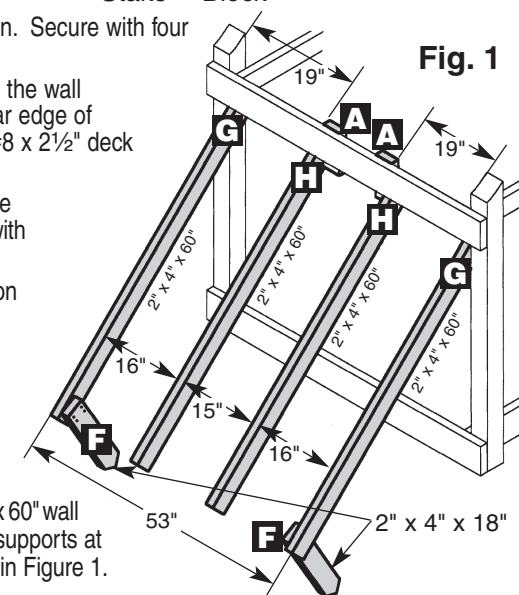

Fig. 1
1. Install two 2" x 4" x 8" blocks 19" from inside of 4" x 4" posts as shown. Secure with four #8 x 2 1/2" deck screws each. (Fig.1)
2. Install two 2" x 4" x 60" wall supports to 4" x 4" tower posts. Position the wall supports under the deck side board so the ends are flush with the rear edge of the 4" x 4"s (opposite ends resting on the ground). Secure with two #8 x 2 1/2" deck screws and one 3/8" x 3" lag screw with washer each side. (Fig.1)
3. Install two 2" x 4" x 18" ground stakes to wall supports as shown (outside dimension must be 53"). Drive them into the ground as shown. Secure with four #8 x 2 1/2" deck screws each. (Fig.1)
4. Install two 2" x 4" x 60" wall supports to the 2" x 4" x 8" blocks. Position the wall supports under the deck side board so the end is in line with the two outer wall supports. Secure with two #8 x 2 1/2" deck screws per board. (Fig.1)
5. Install ten 5/4" x 6" x 60" wall decking. Hold wall supports at dimensions shown in Figure 1.